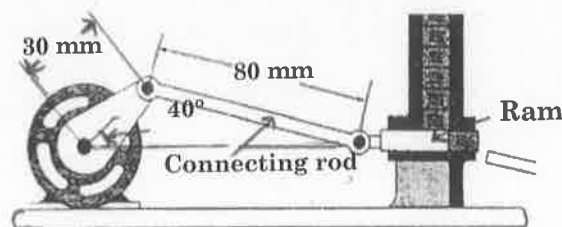

Figure 6
16. (a) The mechanism shown in Figure 6 is used to feed cartons to a labeling machine and, at the same time, to prevent the stored cartons from moving down. At full speed, the drive shaft uniformly rotates counter clockwise with an angular velocity of 25 rad/s . At the instant shown determine the velocity and acceleration of the ram, angular velocity and angular acceleration of the connecting rod, if the centre of mass is located at the mid span of the connecting rod. (15)